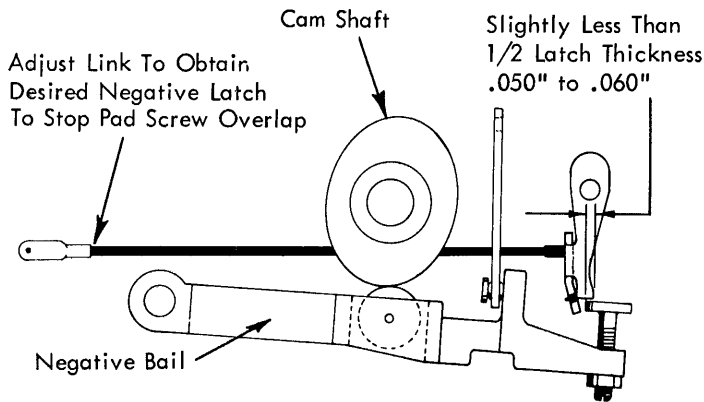

FIGURE 19. Negative Latch Link
- a. With the machine at rest adjust the negative 5 latch link so that the negative 5 latch will overlap the stop screw head by .050" to .060" (Fig. 19).